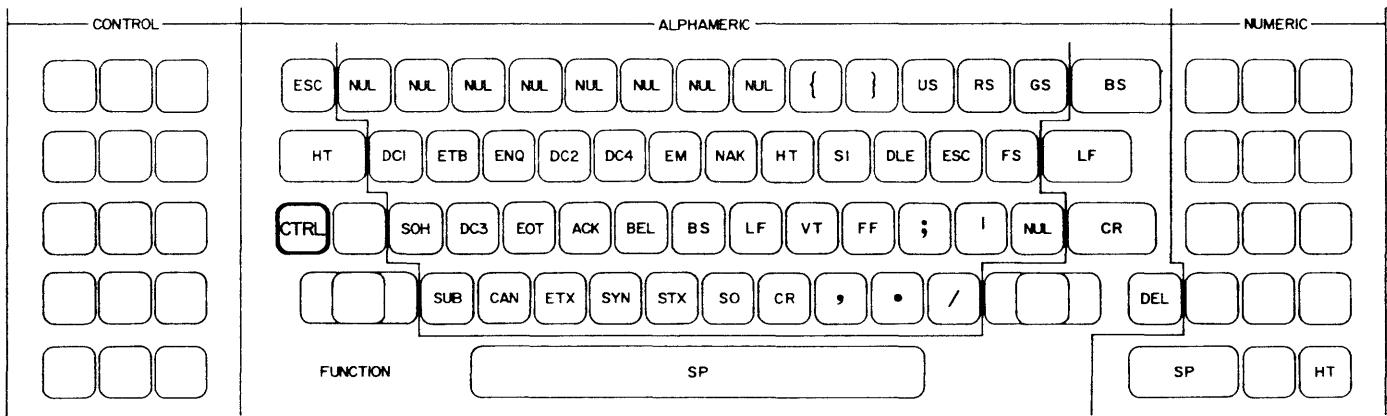

Figure 2-16 CTRL MODE KEY ASSIGNMENT
- CTRL - This is also a control key. When it is held down while pressing other keys, special control characters such as HT, VT, FF, etc. are generated. The affected keys are shown in Figure 2-16 and listed below. Note that the key legends depicted are for the standard 47-key typewriter paired keyboard.